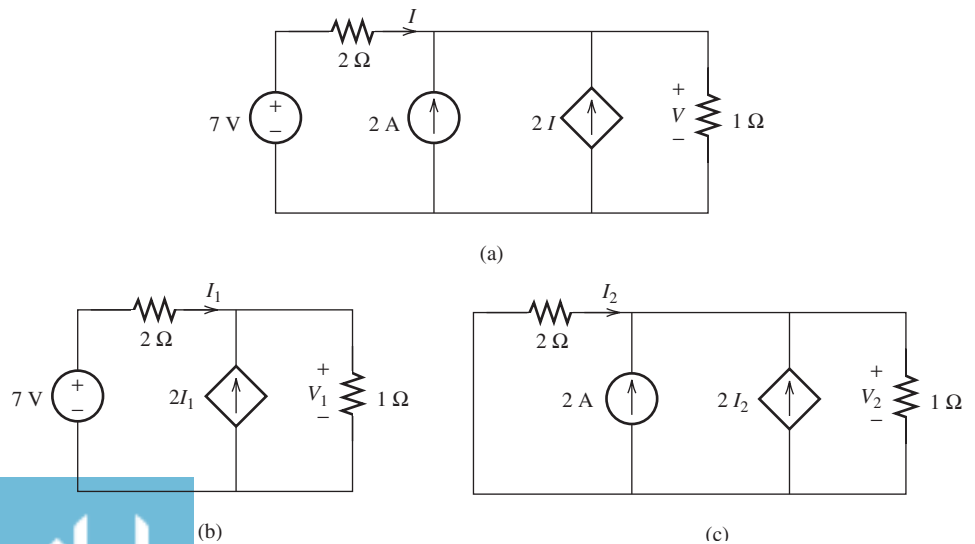

FIGURE 3.86 Circuits for Example 3.38. (a) The original circuit. (b) Setting 2 A to zero. (c) Setting 7 V to zero.
Find the current, I , in Figure 3.86 using the superposition technique.
Equate the 7-V voltage sources and the 2-A current sources to zero, respectively. The resulting circuits and their equivalents are shown in Figure 3.86.
According to the equivalent circuit in Figure 3.86(b), the node voltage due to the 7-V voltage source (V) is:
Similarly, according to the equivalent circuit in Figure 3.86(c), the node voltage due to the 2-A current source (V) is:
According to the superposition principle, the current, I , in Figure 3.86(a) is the summation of the currents I_1 and I_2 . Thus: